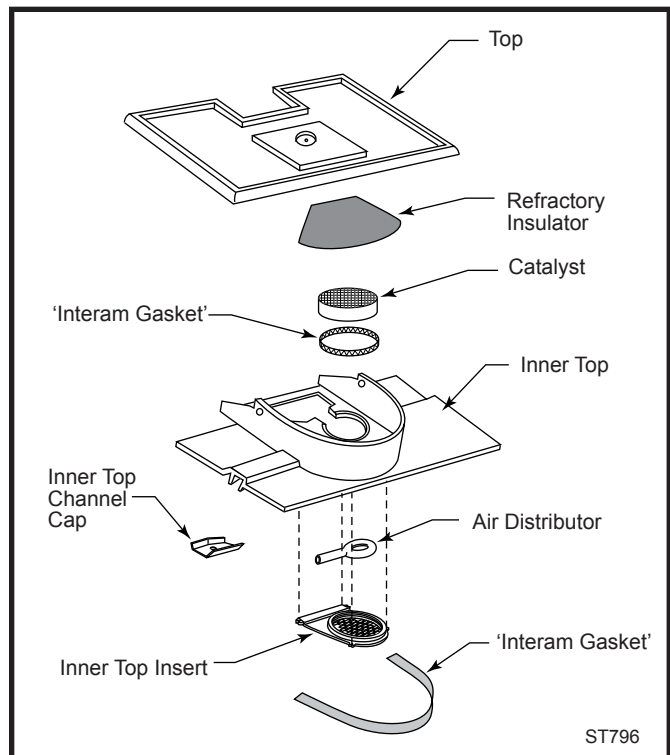

Fig. 7 Inner top and associated parts.
- Refer to Figure 7 to identify parts.
to tap it gently to release it from the inner top. Remove the steel air distributor by wiggling it out of its socket in the inner top . (Fig. 7)
11. Put the catalytic combustor in place in the inner top insert, with a piece of 'Interam' gasket around its bottom edge. (Fig. 7) Put the new refractory insulator in place over the catalyst; note that its forward bottom edge is slightly relieved in the center, to accommodate the new style insert. The original insulator is not relieved.